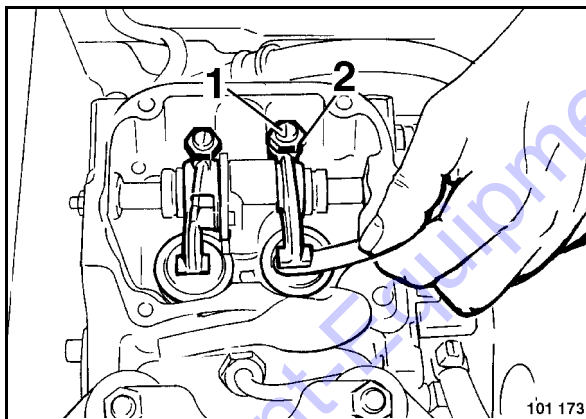

Fig. 59
- Slightly slacken the counter nut 2 (Fig. 59).
- Adjust setscrew (1) with a screwdriver, until the feeler gauge can be inserted and pulled out with little resistance after retightening the counter nut.